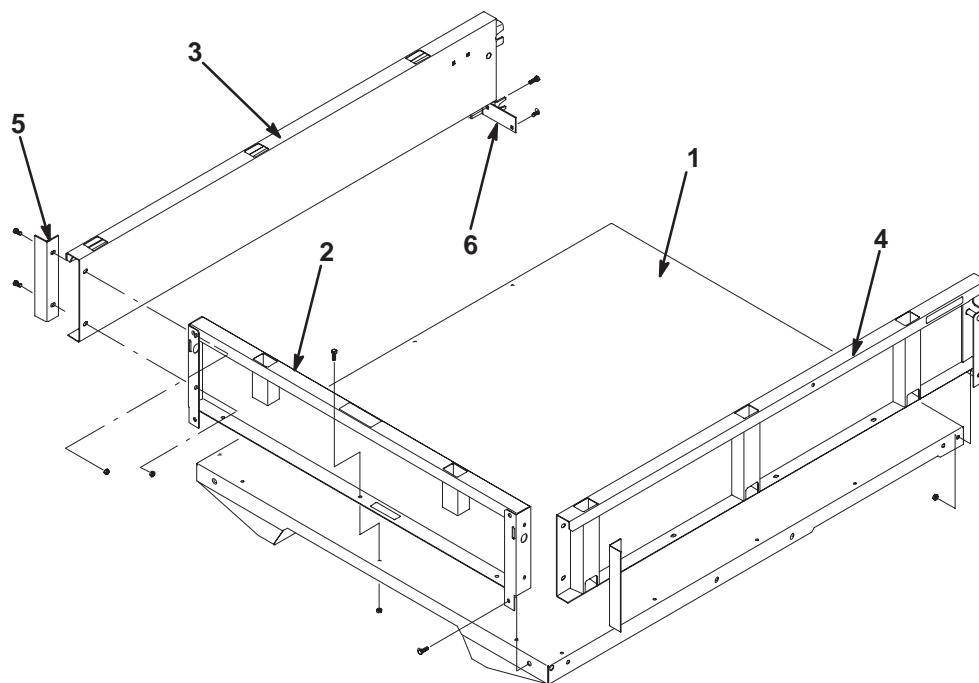

Figure 2
2. Loosely secure panel to top and front of bed with (5) 5/16-18 x 5/8" lg. capscrews and flange locknuts (Fig. 2).
3. Position right and left side panels on bed and align mounting holes. Loosely secure panels to top and sides of bed and ends of front panel with side angles, 5/16-18 x 5/8" lg. capscrews and flange locknuts. (12) capscrews and flange locknuts are required for installation on a full area flatbed or (10) on a 2/3 area flatbed. Position side angles as shown in figure 2. Do not secure rear sides at this time.